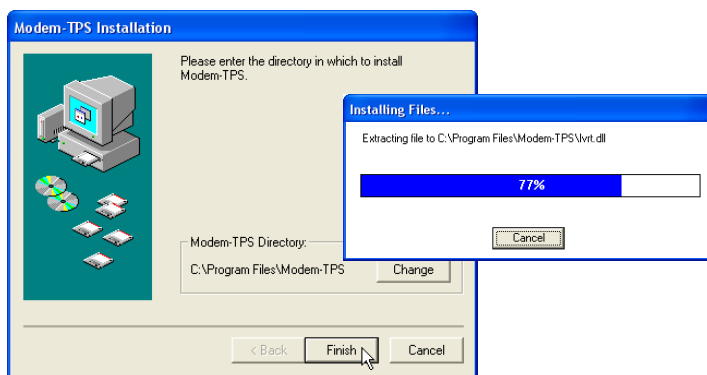

Figure 2-2. Select Modem-TPS Installation Location and Install
2. Keep the default installation location or select a new location. Click **Finish** (Figure 2-2).